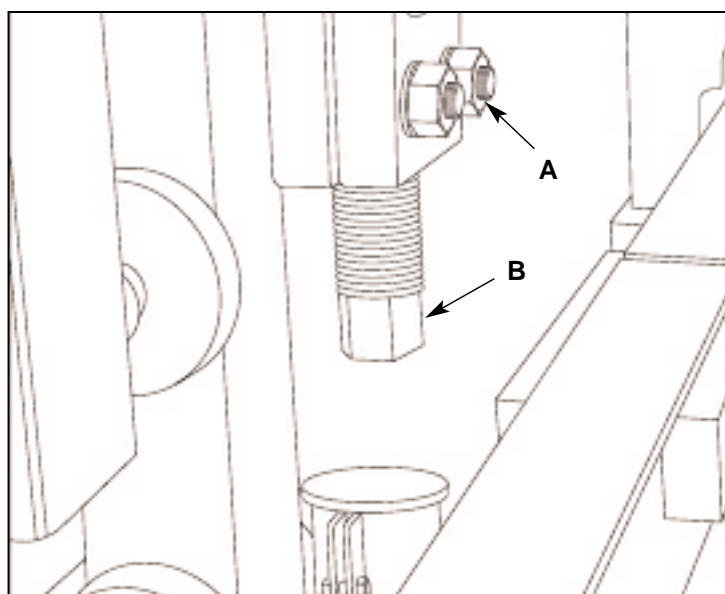

Figure 5.28 HEIGHT PINS ADJUSTMENT (LEFT SIDE SHOWN).
5.6.7 Loosen nuts (A) and set height pins (B) to be this far away – the final result of the measurement in 5.6.6 – from lower height stops (figure 5.28).